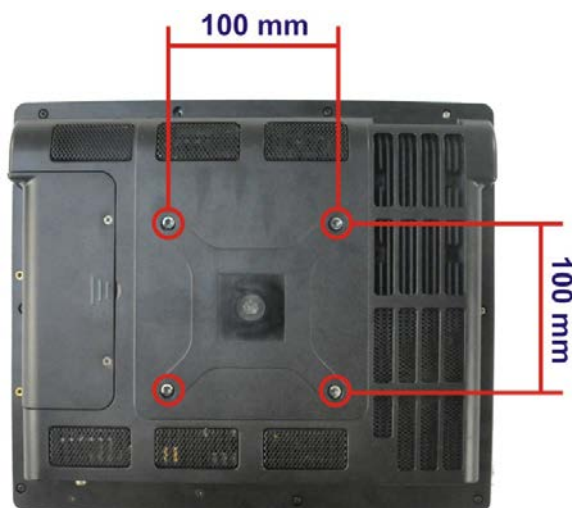

Figure 4-7: Arm Mounting Retention Screw Holes
Step 3: Align the retention screw holes on the mounting arm interface with those in the flat bezel panel PC (**Figure 4-7**).